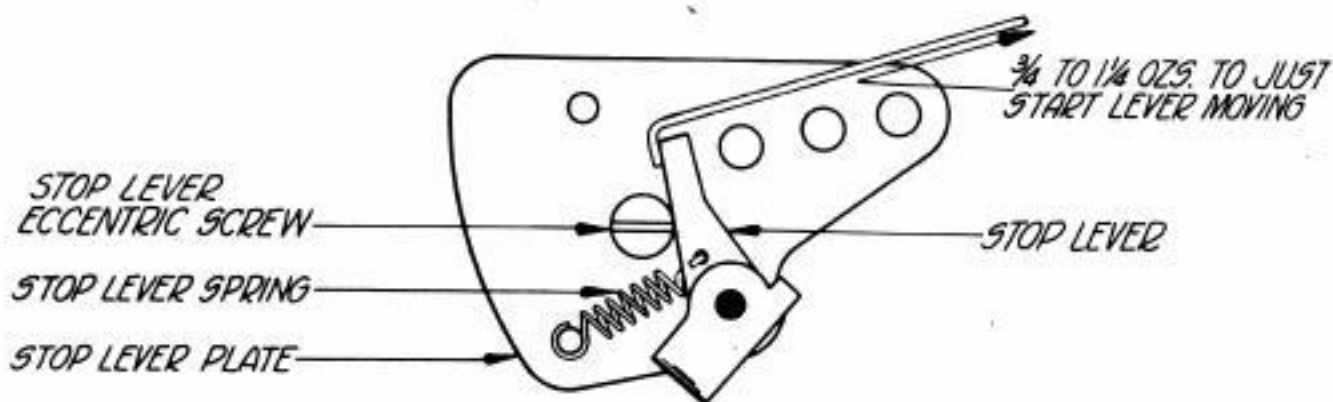

FIGURE 9
Stop Lever Spring Tension (Figure 9) - See Note (A)